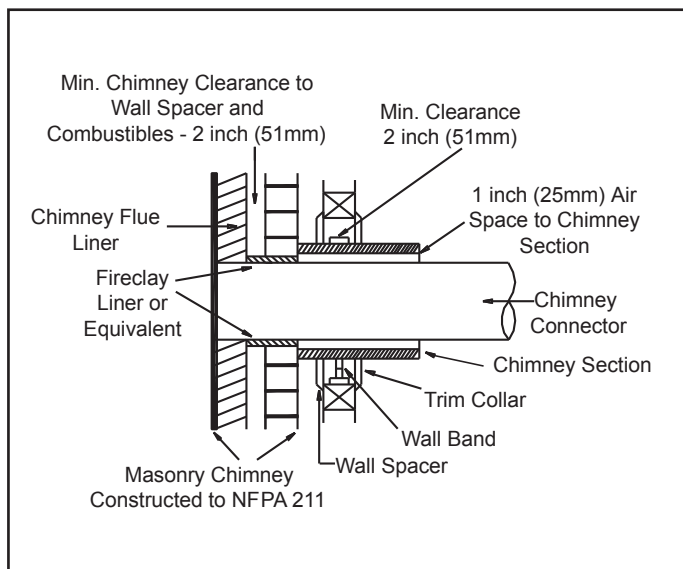

Figure 37.1
3. Construct a 17 inch x 17 inch (432mm x 432mm) outside dimension frame from 2 x 2 framing lumber to fit into wall opening. Inside opening of frame should be no less than 14 inch x 14 inch (356mm x 356mm). **Figure 37.1.**